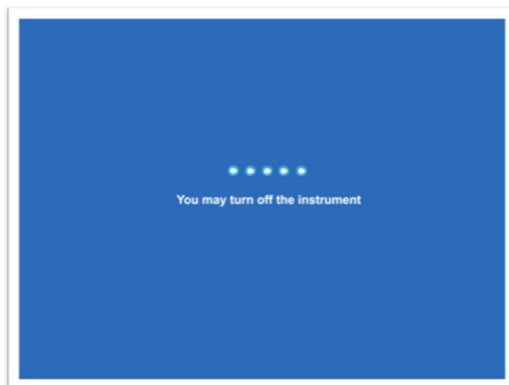

Figure 52: Final Shutdown Screen
4. When the "You may turn off the instrument" message displays (Figure 52), you can safely shut off power to the analyzer by pushing the OFF switch on the front of the analyzer. (Figure 2)